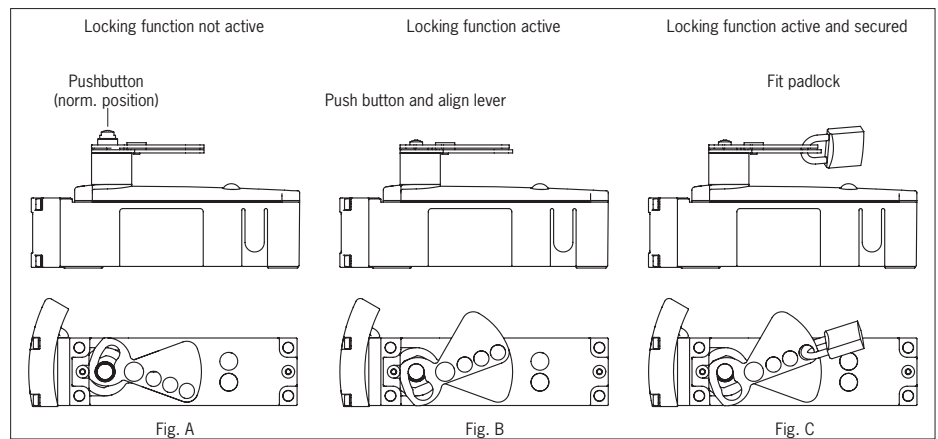

Fig. 7: Using the lockout bar
2. Press button, move lockout bar to locked position (Fig. 7, A and B) and secure with padlock (Fig. 7, C)
3. Move lockout bar to basic position (Fig. 7, A)